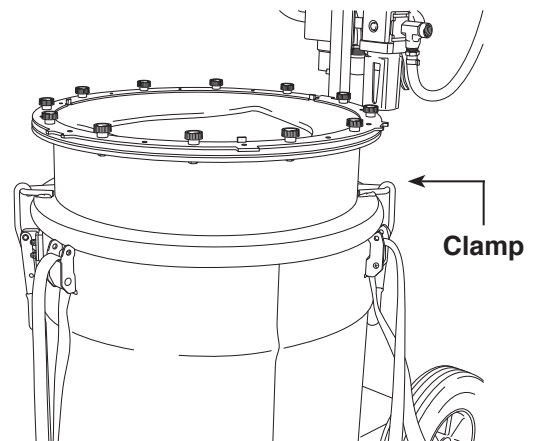

Figure 25
2. Reinstall the intermediate ring, and clamp it to the canister, ensuring a tight seal to the ash bag. See Figure 25.